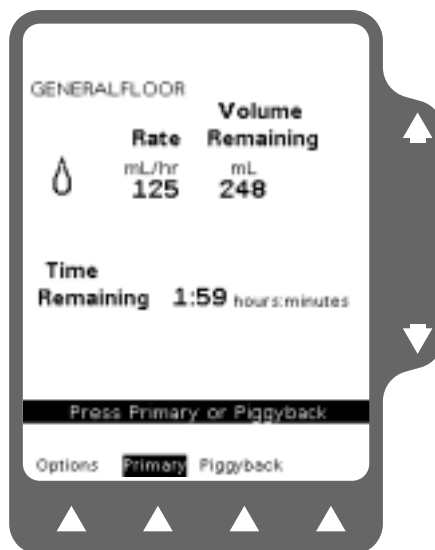

Figure 5-16 Main Display
14. Press the **START** key to begin the infusion. The Main Display screen, showing the rate and the dose, is displayed (Figure 5-16).